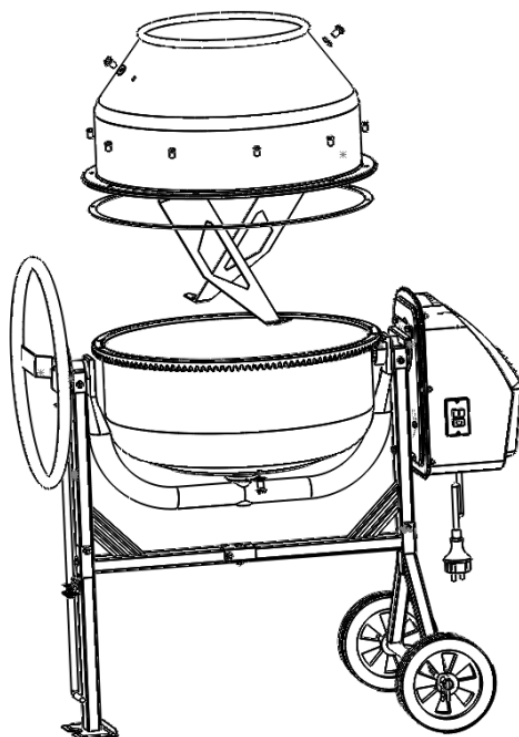

Fig.12
- Place the rubber gasket on the lower unit mixing drum.(9), p.13, as shown in Fig.12 following page.
- Place the upper unit mixing drum (6) on the lower unit mixing drum.